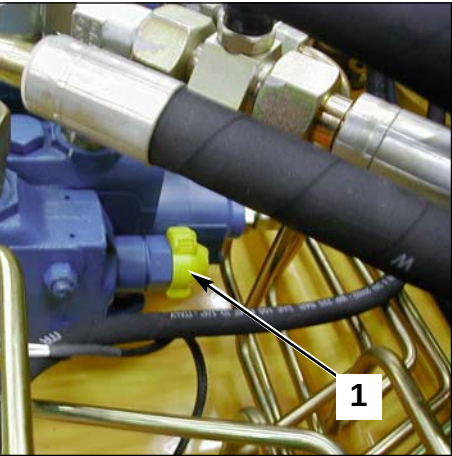

Fig. 3 SX14 valve block
- 5- Loosen the lock nut and turn the pressure controller screw (1 fig. 3) clockwise to increase the pressure.